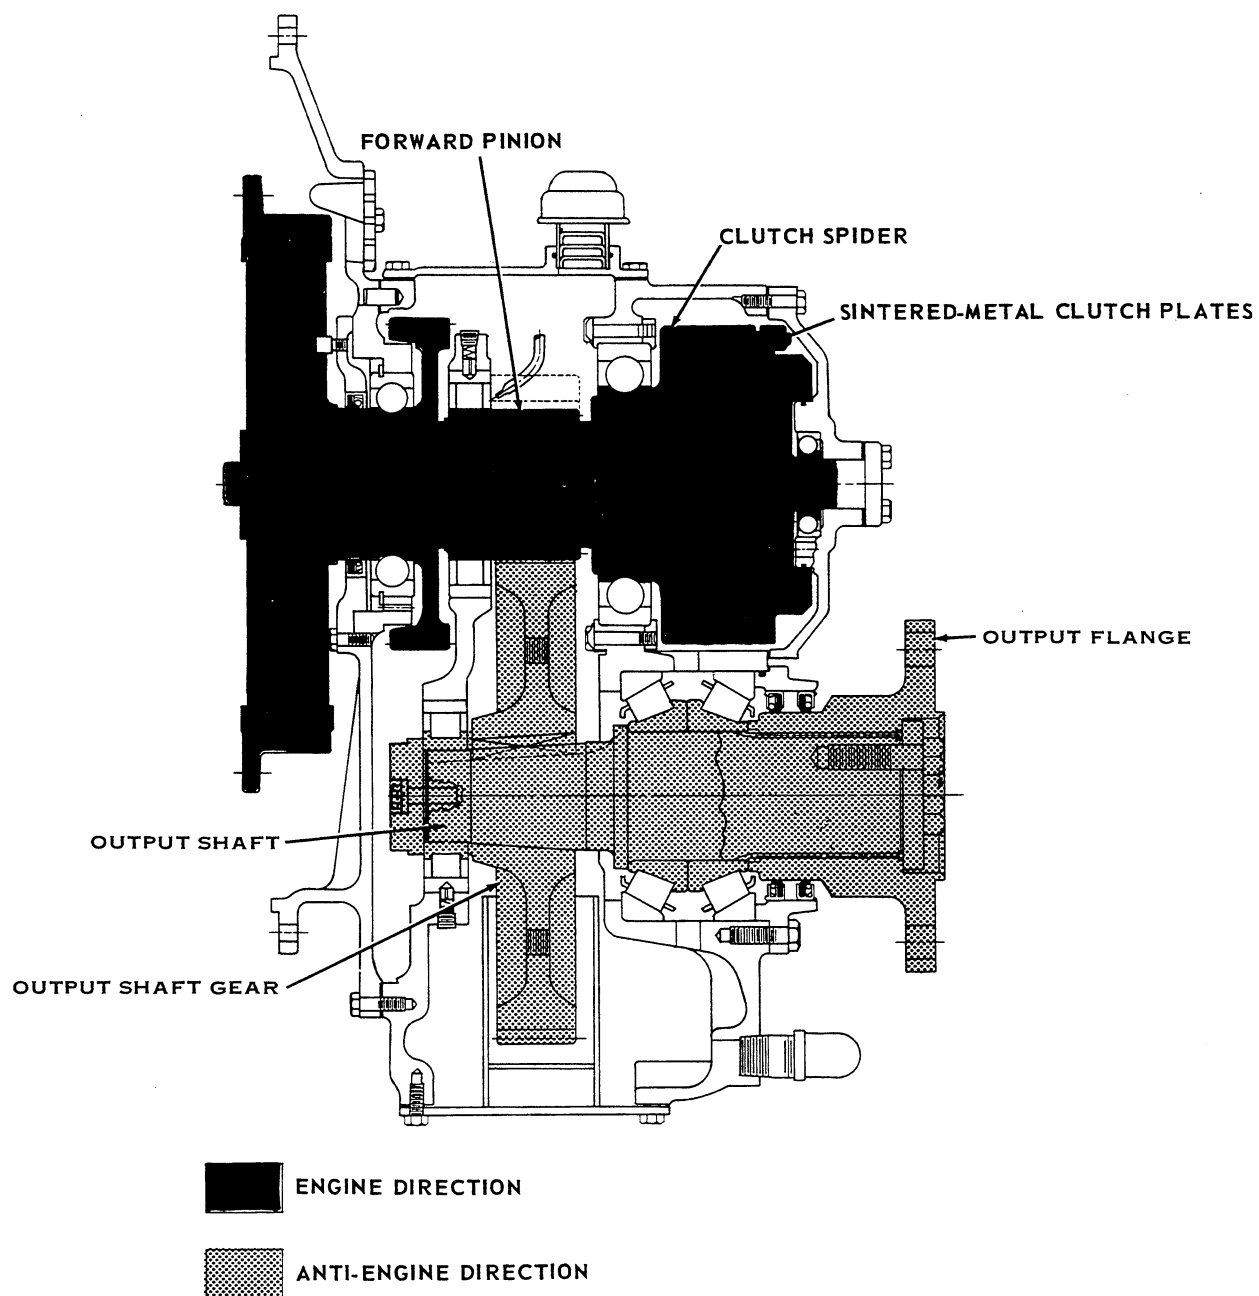

Figure 7. MG-514 Marine Gear Power Flow – Forward
B. Forward (Fig. 7). When in forward, all parts that rotated in neutral at engine speed are still turning. However, when the forward clutch is engaged the steel clutch plates make positive contact with the sintered-metal clutch plates. The external lugs of the sintered-metal clutch plates drive the clutch spider which is spline-connected to the forward pinion. Therefore, the forward pinion rotates in engine direction at engine speed when the forward clutch is engaged. The forward pinion is meshed with the output shaft gear which is keyed to the output shaft. The output flange is spline-connected to the output shaft and, therefore, the flange rotates in anti-engine direction when in the forward position. The output shaft and output flange rotate at a reduced speed due to the ratio between the output shaft gear and the forward pinion.